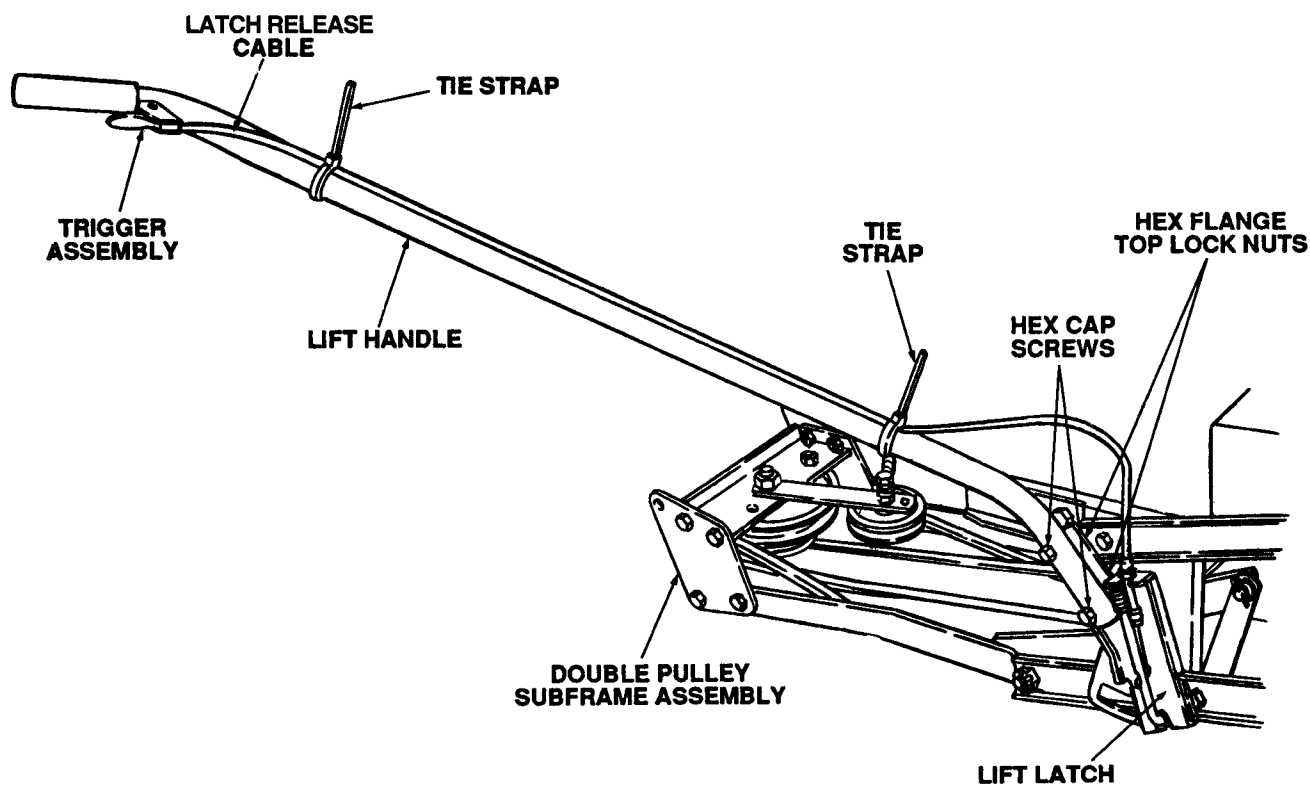

Figure 7-32. Installing Snow Thrower Lift Handle and Latch Release Cable.
9. Attach the snow thrower lift handle (22) to the lift latch bracket, located on the right side of the snow thrower undercarriage, using the two hex cap screws (12) and hex flange top lock nuts (8). See Figure 7-32.
12. Secure the latch release cable to the lift handle using two tie straps (25) as shown in Figure 7-32.